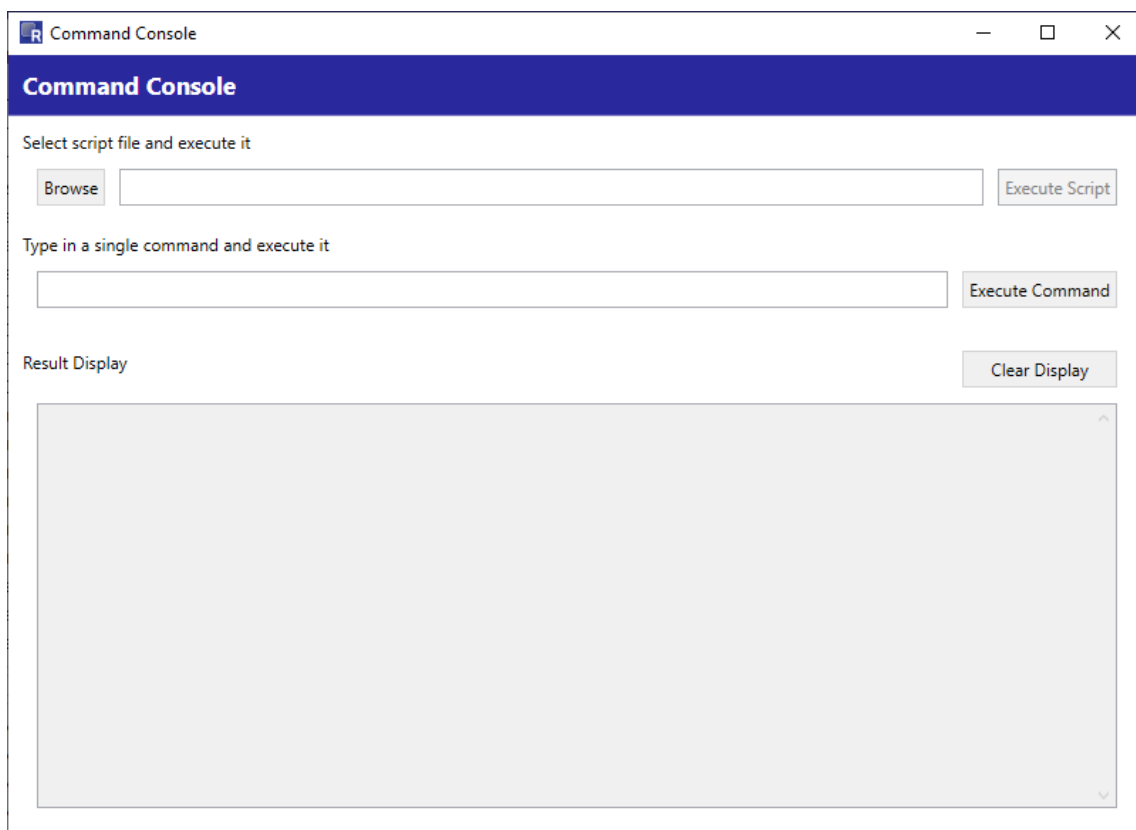

Figure 14. Tools Menu – Command Console
- Command Console: launches the Command Console (Figure 14), for detailed description of the available options see section 3.9.